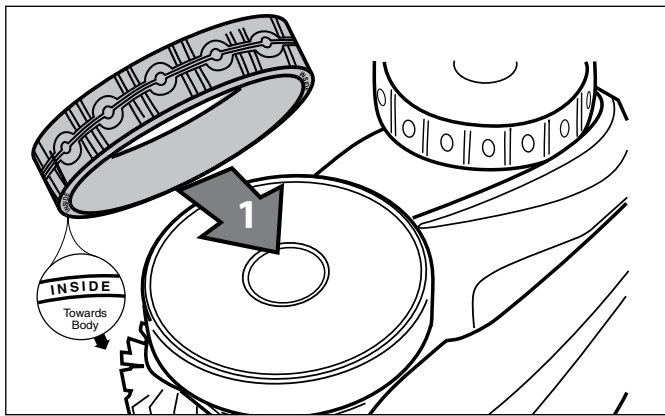

Figure 37. Tire Replacement Orientation
- To replace the tire, position the tire on the wheel making sure to orient the tire so that the word INSIDE is toward the body of the cleaner (Figure 37).